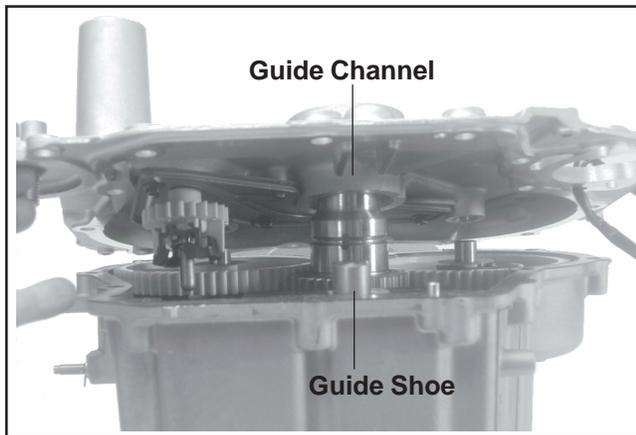

Figure 10-29. Aligning and Installing Closure Plate.
2. Apply grease to the outside flat surfaces of the balance weight guide shoe. Position the guide shoe so the solid end is toward the crankshaft. See Figure 10-29. Make sure the guide shoe stays in this position during the next step.
3. Ensure the gasket, cover plate, and governor gear assembly, have been properly assembled to the closure plate (refer to Section 9). Start the closure plate onto the crankcase. Be sure the guide shoe is aligned with the guide channel in the closure plate, and the cam shafts and governor gear shaft are aligned with their mating bearing surfaces. See Figure 10-29. As the plate is lowered into final position, rotate the crankshaft slightly, if necessary, to help engage the governor gear.